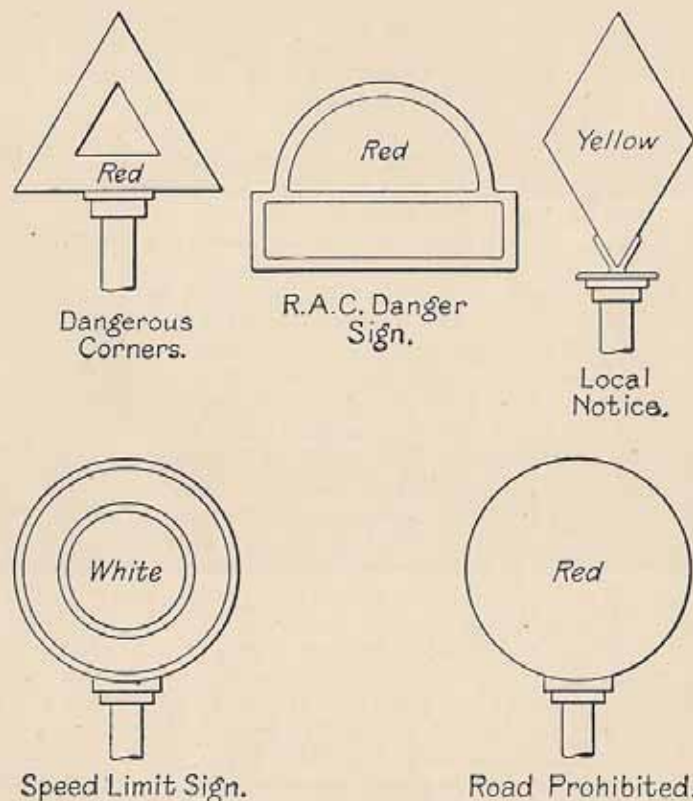

FIG. 33. CONVENTIONAL ROAD SIGNS
8. Obey all special speed limits and notices (see Fig. 33) and respect the *white line*.